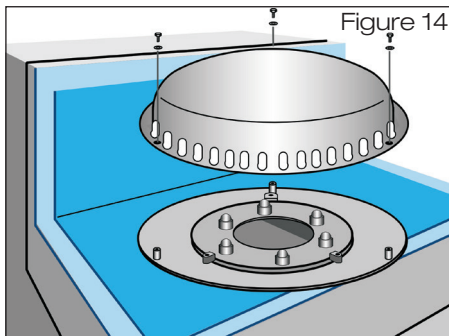

Figure 14
3.6 Screw the suction cover to the base plate using the fixing screws and washers provided (Fig. 14 or 14A). Tighten the enclosed screws using an AF 10 open-ended or ring spanner.